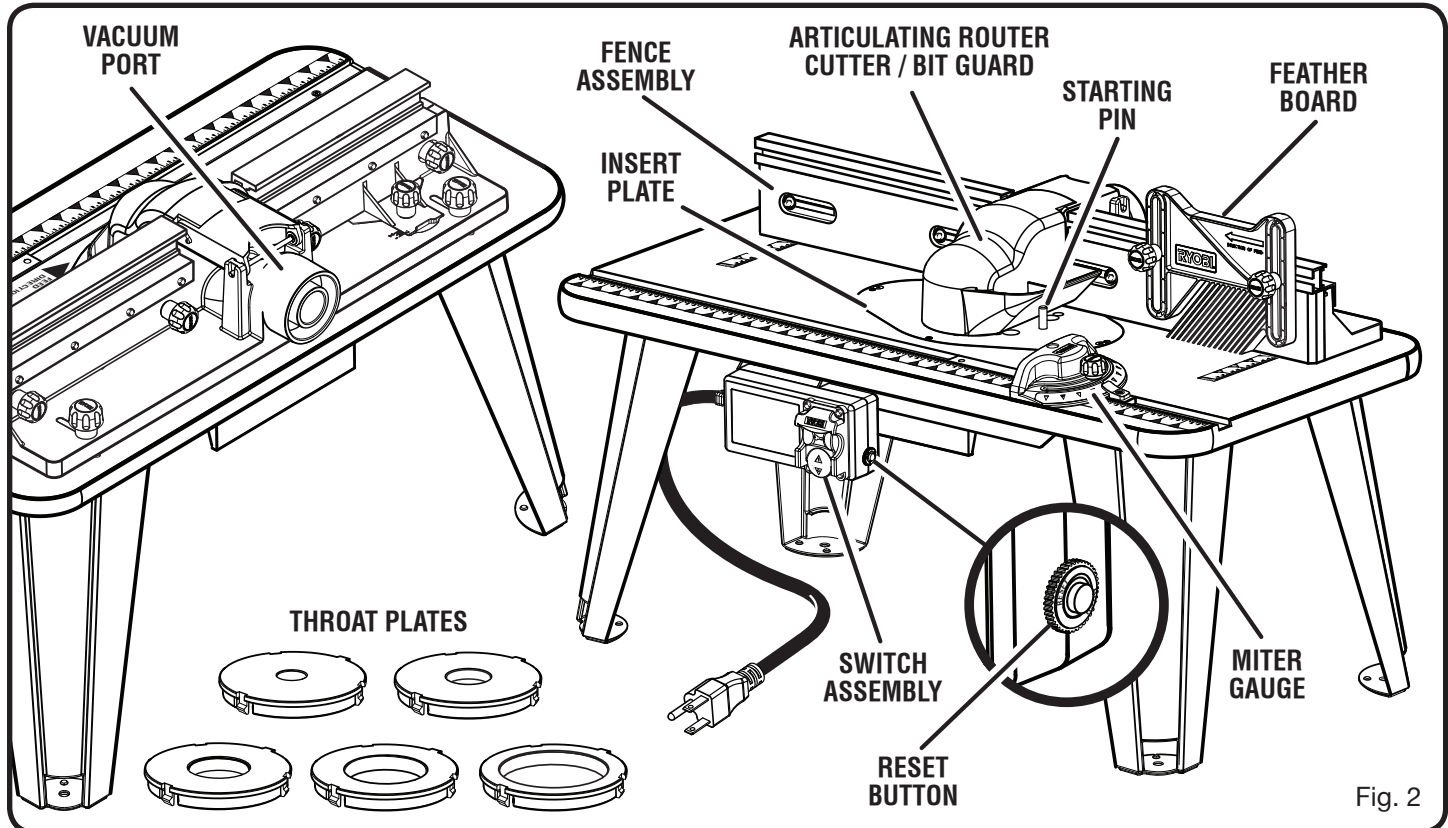

Fig. 2
See Figure 2.
**NOTE:** The router table is equipped with a reset button ( See Figure 2 ). If, for any reason, the router table will not turn on, press the reset button and then restart.